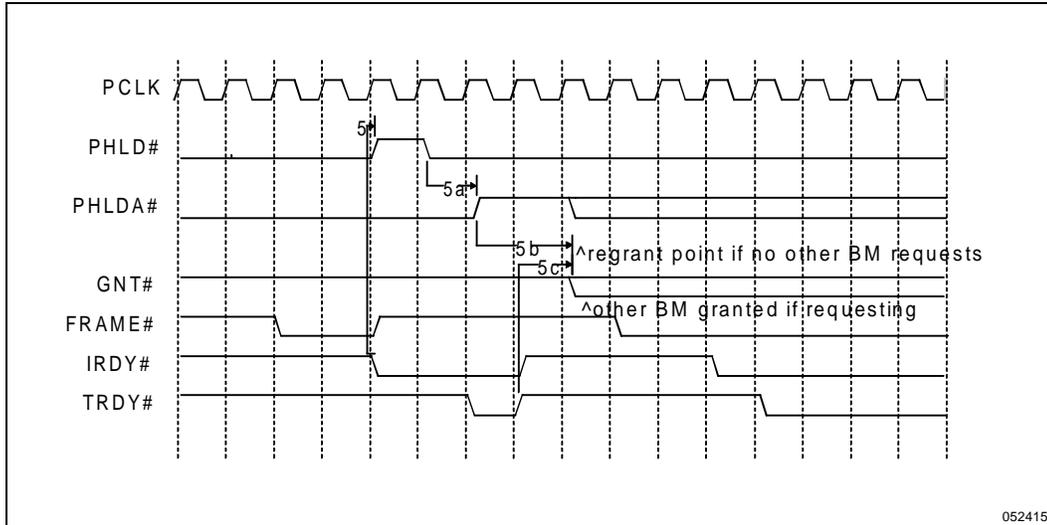

Figure 15. PHLD# and Passive Release
- 6. **Active bus release** requires a minimum PHLD# negation time of 2 PCLKs (Figure 15 PHLD# Assertion/Negation Rules).